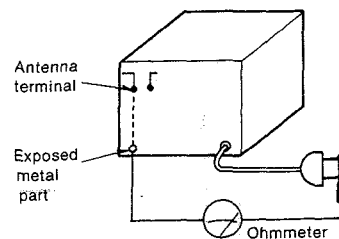
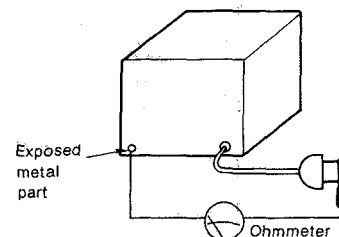

Fig. 1
Fig. 2
3. Measure the resistance value with ohmmeter between the jumpered AC plug and each exposed metal cabinet part, such as screwheads, antenna, control shafts, handle brackets, etc. Equipment with antenna terminals should read between 3 MΩ and 5.2 MΩ to all exposed parts*. (Fig. 1) Equipment without antenna terminals should read approximately infinity to all exposed parts. (Fig. 2)